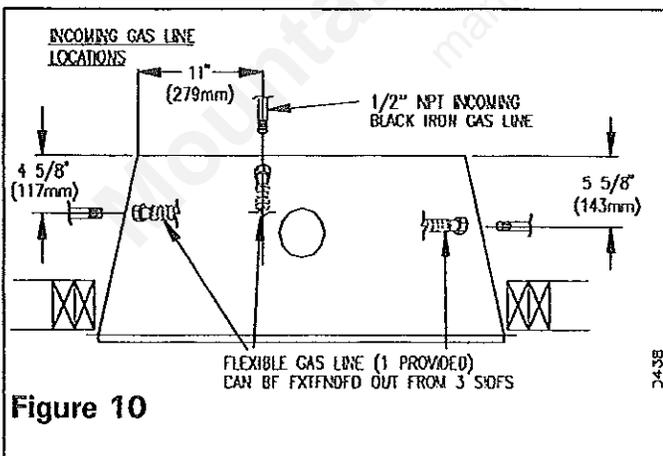

Figure 10
3. Install the supply line to the appliance using a 1/2" NPT black iron gas line terminating 2-5/16" above the bottom of the appliance. The gas line may be installed from either side or from the rear of the appliance (see Figure 10).
In conformance with local codes, route a 1/2" NPT GAS LINE towards the appliance coming in from any of the 3 directions shown in Figure 10.